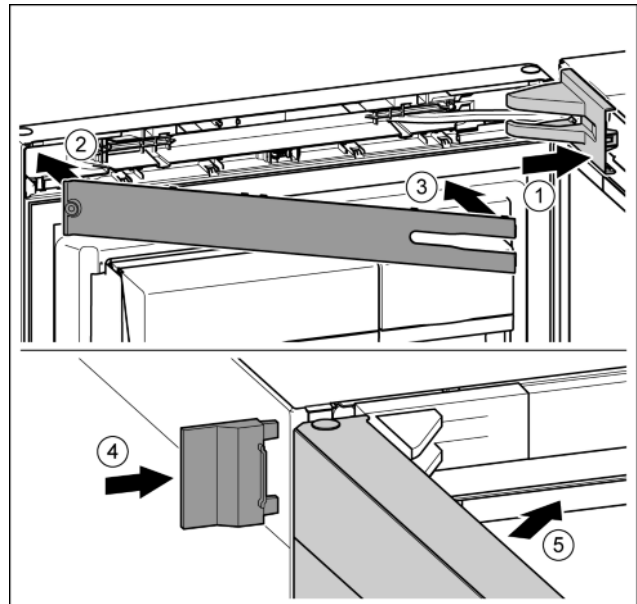

Fig. 42
- ▶ Put the mounting block cover on and click into place. If necessary push apart carefully. Fig. 42 (1)
- ▶ Position the cover plate. Fig. 42 (2)
- ▶ Swivel the cover plate and click into place. Fig. 42 (3)
- ▶ Push the external cover on. Fig. 42 (4)
- ▶ Close the upper door. Fig. 42 (5)